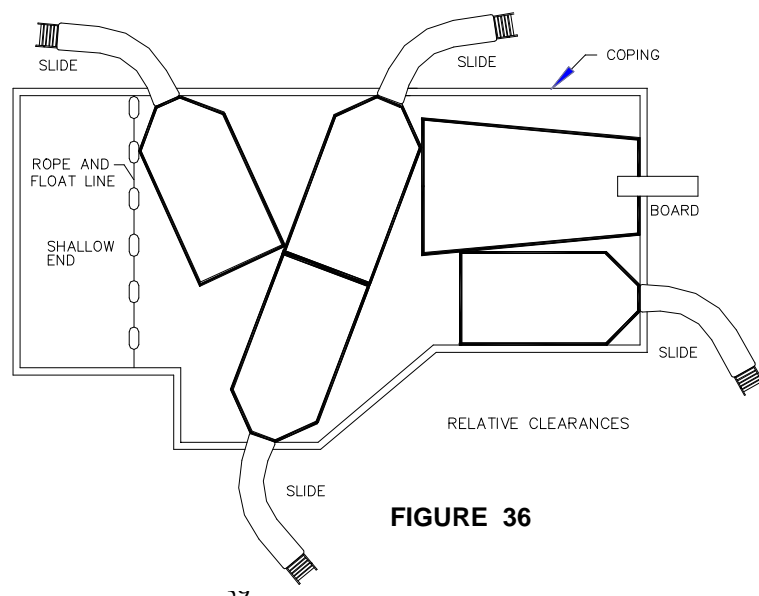

FIGURE 36
- B. The minimum clearance area of a slide or diving board shall not intersect any coping or rope and float line as shown in FIGURE 36. The minimum clearance area of a slide or diving board may intersect each other provided that they are not used simultaneously.